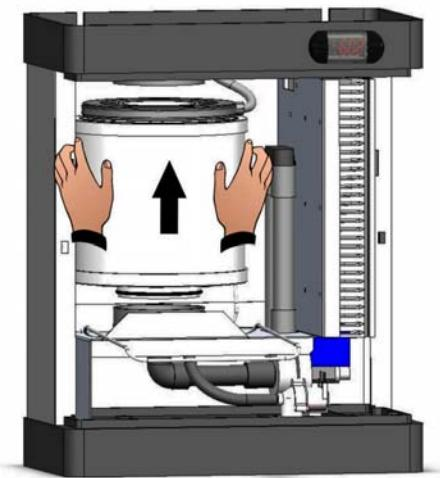
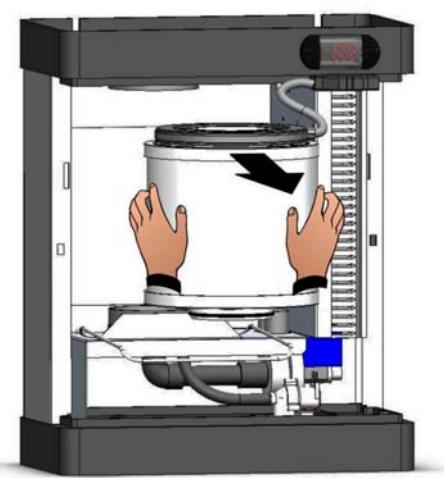

Fig. 33
Fig. 34
- Remove the cylinder from the lower flange extracting it upwards (Fig. 33) and remove it from the humidifier (Fig. 34).